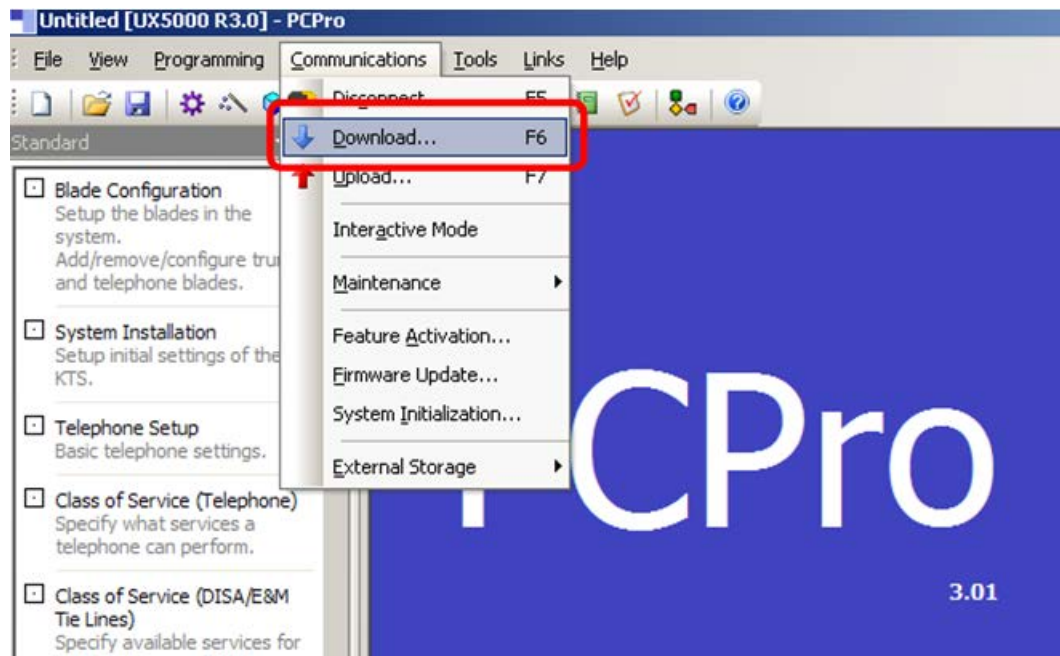

Figure I-2 Download Database Screen
2. Once connected, click **Communication > Download** to download the database, Figure I-2 - Download Database Screen.